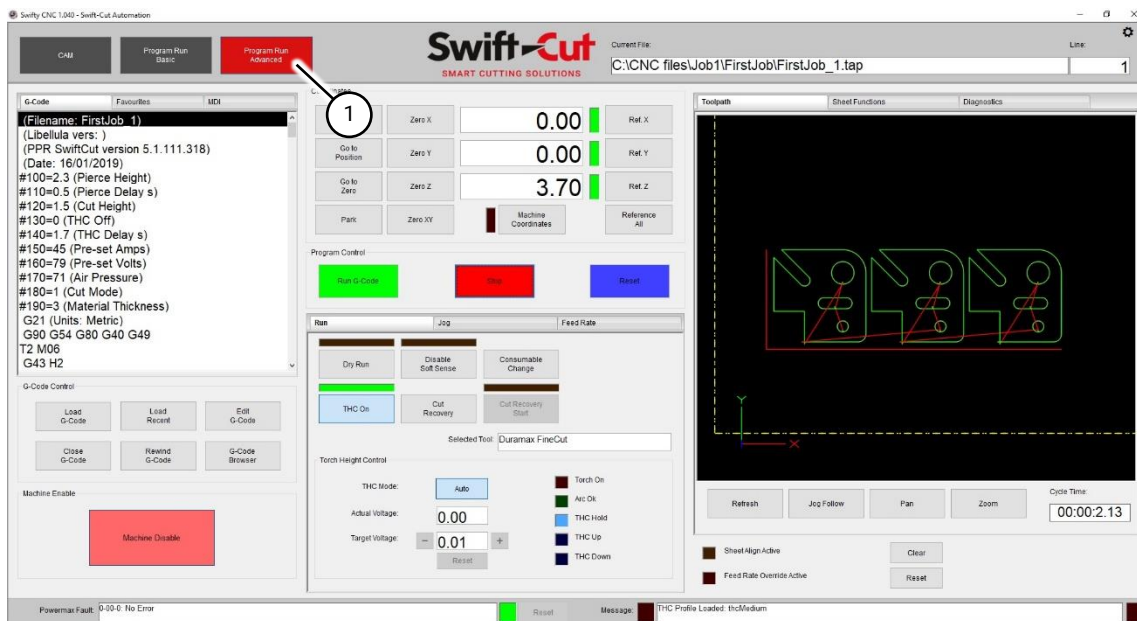

Fig 74 Advanced screen
1. The Program Run Advanced screen (Fig 74 (1)) offers additional functionality over the Program Run Basic screen.